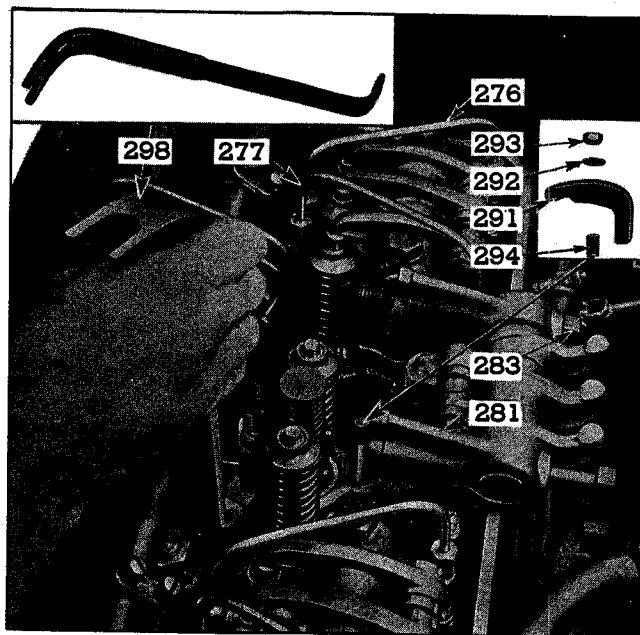

Fig. 2—Removing an Injector.
- a. Disconnect and remove fuel pipes (68) and (69) from the injector and fuel connector (70). See Fig. 2.